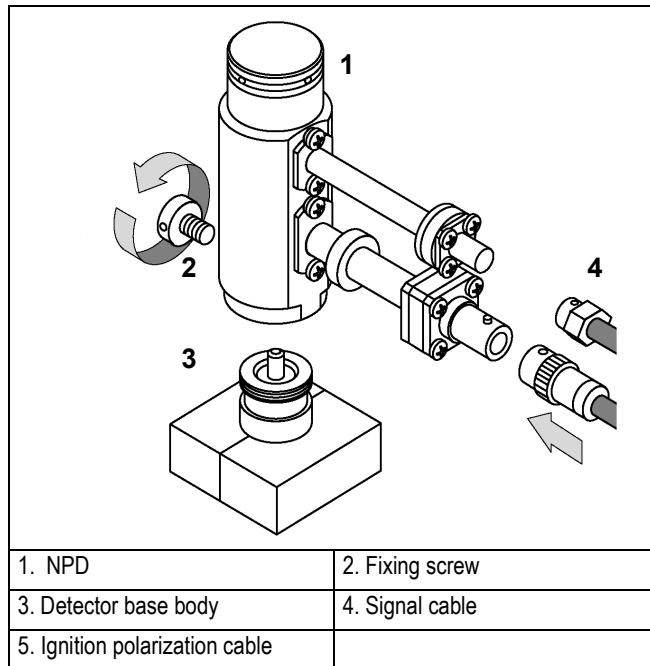

Figure B-13. Installation of the NPD
2. Install the NPD on the detector base body and secure it by using the fixing screw on the front of the detector cell. Refer to Figure B-13 on page 375.
3. Carefully, connect the signal and ignition polarization cables coming from the detector control card, to the detector cell. Refer to Figure B-13 on page 375.